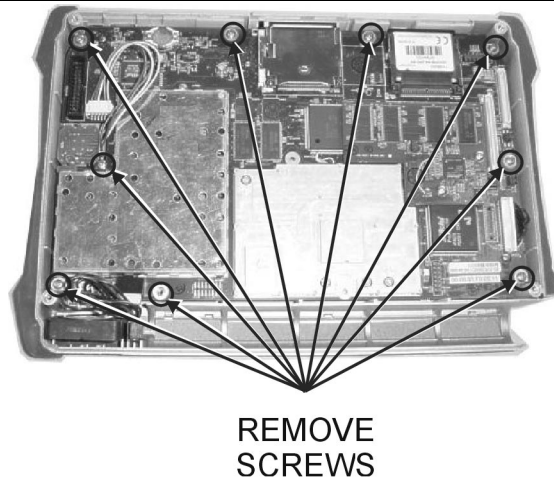

Figure 16. Main PCB Assembly Mounting Screws
4. Use a Phillips screwdriver to remove the nine screws securing the main PCB assembly to the Front Panel section (Figure 16).